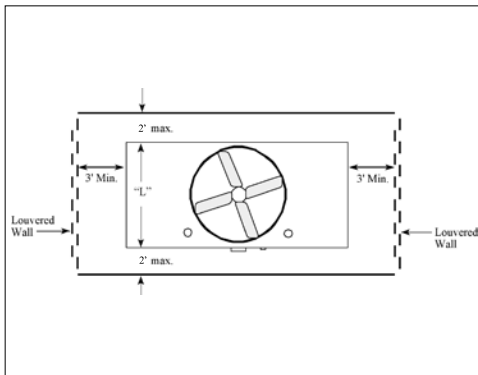

Figure 6. Plan View of Dual Air Inlet Unit in Enclosure with Louvered Walls
- a. Units should be arranged within the enclosure such that the air intake directly faces the louver or slot locations as shown in **Figures 6** or **7**, with a minimum distance of three feet.